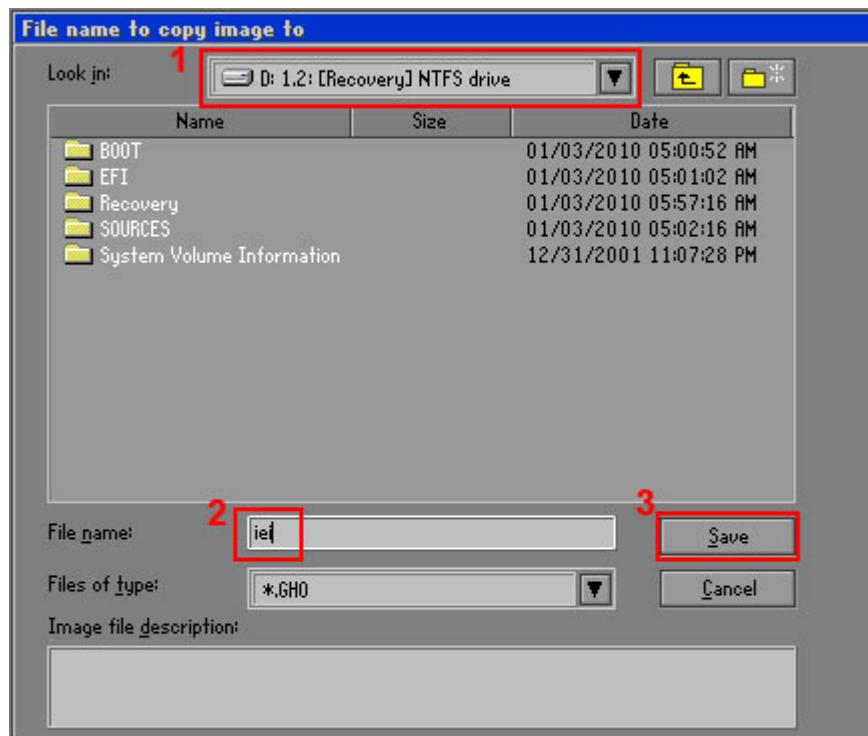

Figure B-16: File Name to Copy Image to
Step 7: Select **1.2: [Recovery] NTFS drive** and enter a file name called **iei** (Figure B-16). Click **Save**. The factory default image will then be saved in the selected recovery drive and named **IEI.GHO**.